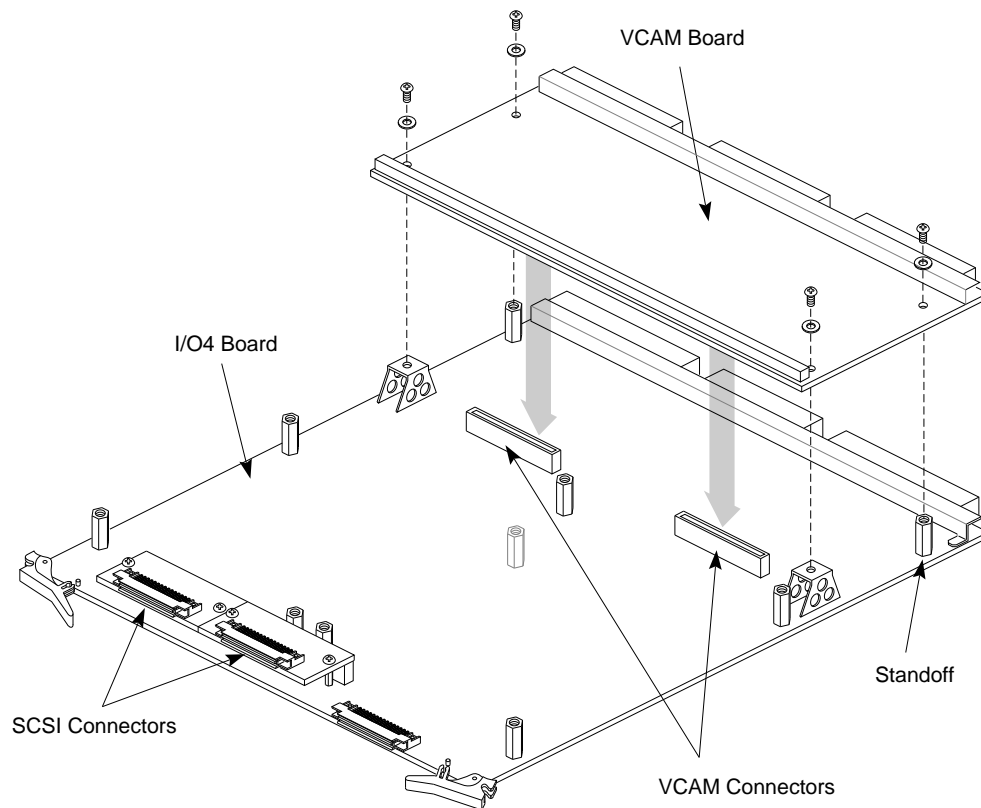

Figure 5-87 Installing a VCAM Board
2. Line up the four holes on the board with the two standoffs and mounting braces (see Figure 5-87).